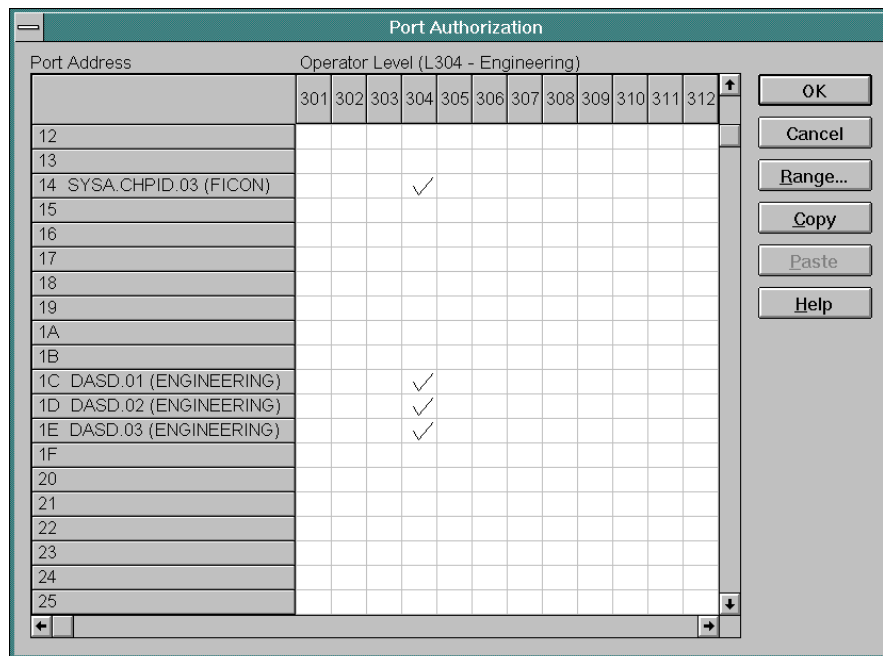

Figure 184. Port Authorization Dialog Box (LPAR Example)
- Click the *Authorize* button. The *Port Authorization* dialog box reappears as shown in Figure 184.